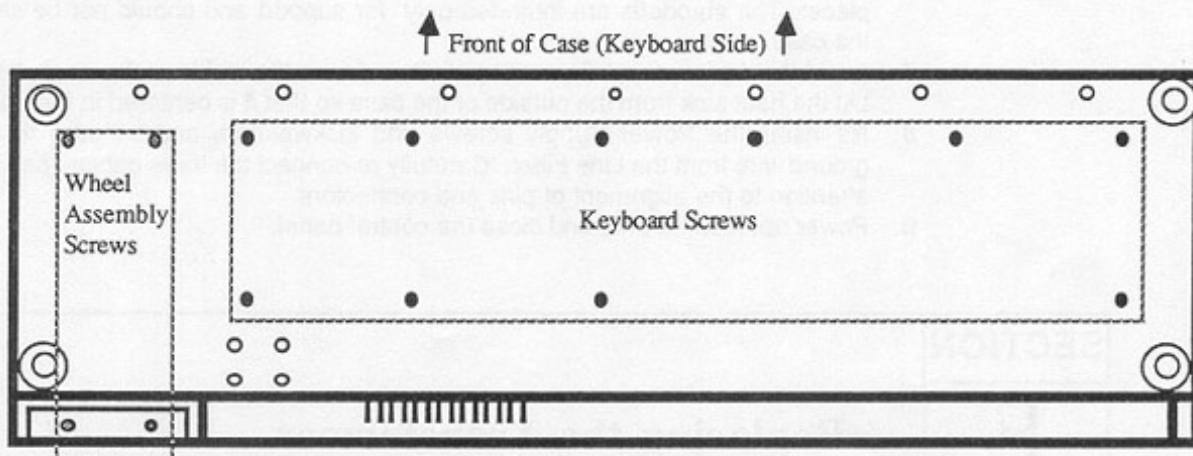

FIGURE 10--Bottom of
2. Remove the four (4) screws that secure the control panel and raise the panel.
3. Remove the six (6) screws that fasten the metal Main board shield to the case and keyboard frame. Disconnect the Display cable (**J4**), the Power cable (**J11**), and the Pitch/Mod Wheel cable (**J12**) from the Main board. Remove the metal shield from the unit.
4. Place the unit upside down on a soft surface and remove the ten (10) screws that attach the keyboard to the case. See **Figure 10** for location of screws.
2. Remove the four (4) screws that fasten the control panel and raise the panel.
3. Place the unit upside down on a soft surface and remove the four (4) screws that attach the Wheel Assembly to the case. See **Figure 10** for location of screws.